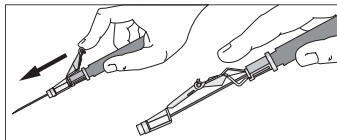

Figure 13
- Immediately activate needle protection device upon withdrawal from patient. For greatest safety, use a one-handed technique and activate away from self and others (refer to Figure 13).